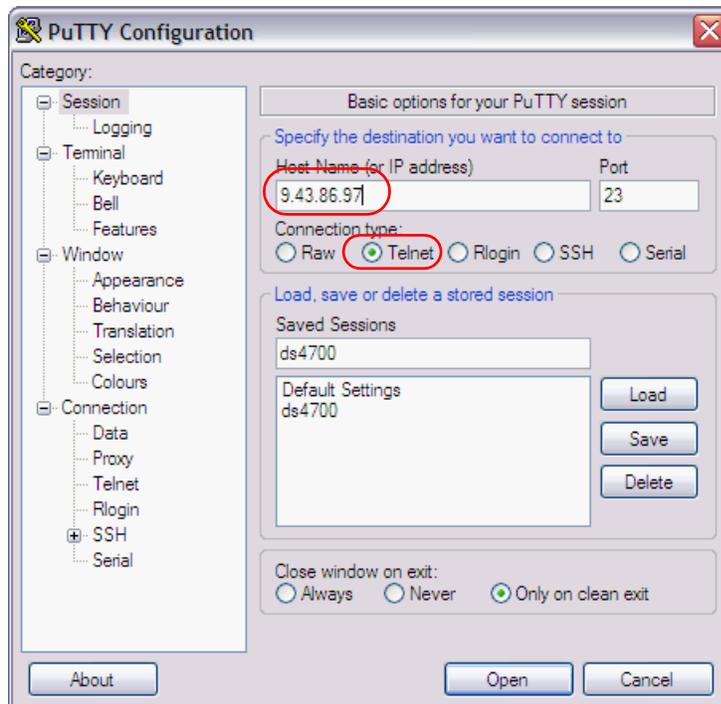

Figure 6-55 Using PuTTY to access command shell
5. Run the putty and then use either the host name or the IP address of the RAID controller Ethernet interface, as shown in Figure 6-55. Make sure that you select **Telnet** for the protocol.